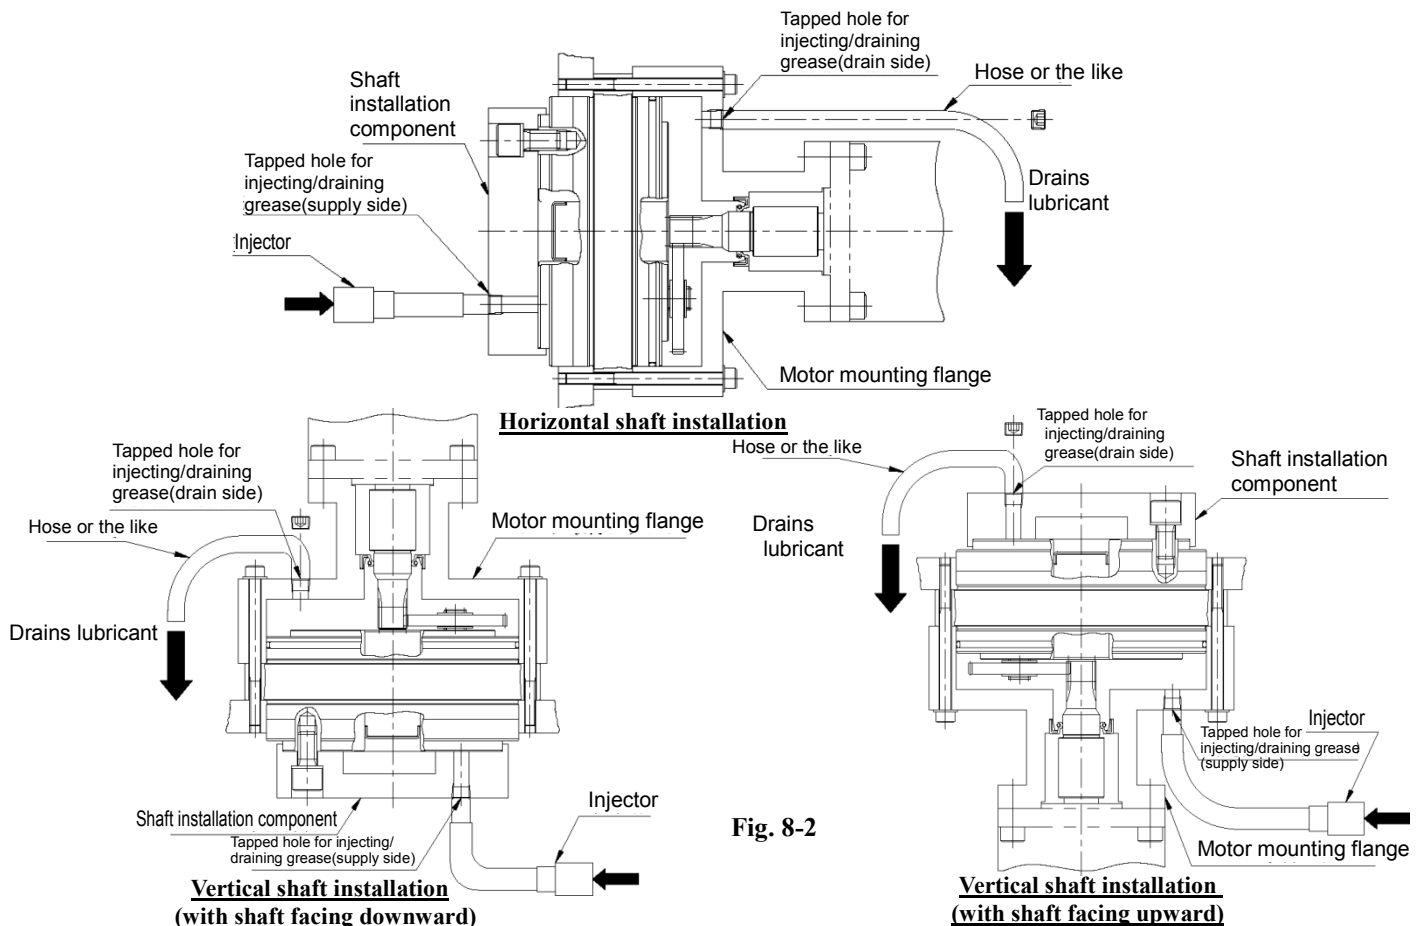

Fig. 8-2
- The shape of the reduction gear may differ from the illustration in Fig. 8-2, depending on the ordered specifications. For details on the shape, refer to the catalog and the separately provided "External dimensions" drawings and specification sheet.
Step 4 Attach a grease nipple, etc. to the tapped hole for injecting/draining grease and then attach the injector. (Refer to Fig. 8-2)